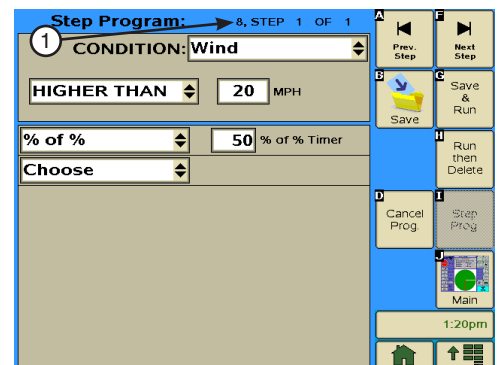

Figure 143-2 1. Step Program Identifier
5. To program using the Wind condition. Refer to Figure 143-2.